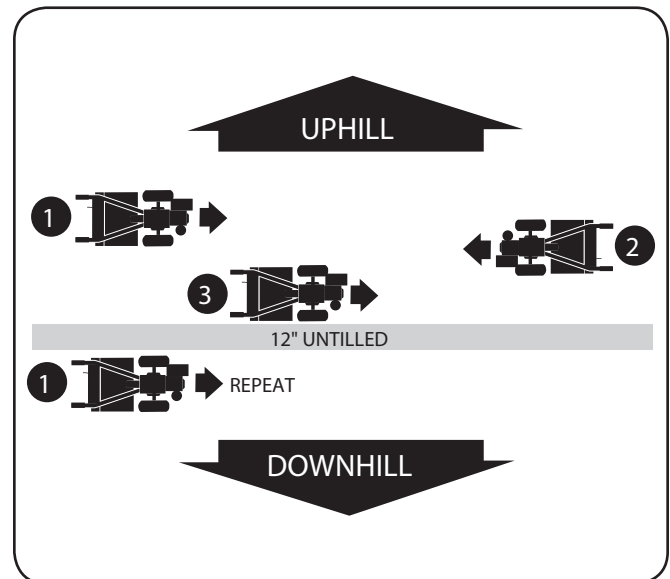

Figure 5-15
- To create a terrace, start at the top of the slope and work down. Go back and forth across the first row. See Figure 5-15.